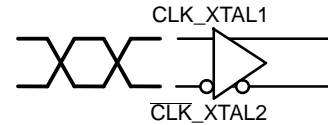

Figure 4. Differential Inputs Driven Differentially
**CRYSTAL INPUTS DRIVEN DIFFERENTIALLY (REFMODE = 1) (see Figure 4 and 6) (Note 11)**